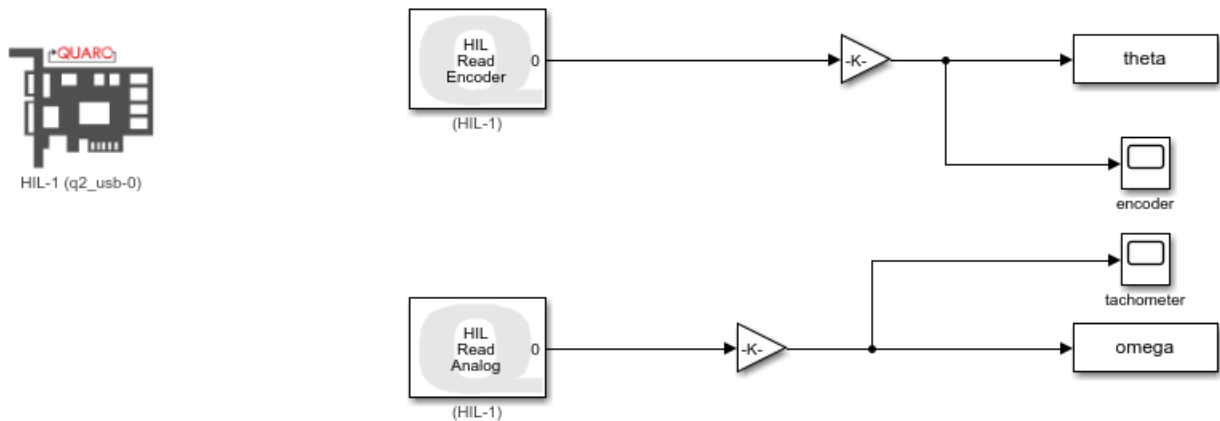

Figure 2.4: Simulink model for Lab 2 for the manual impulse
7. You will now introduce an impulse into the real system by providing a “jolt” by hand. This can be done by tapping the gear. Prepare the Simulink model shown in Figure 2.4. Note that there is no **HIL Write Analog** block required in this case since you are providing the input action. Using Simulink, build the model. Under the **hardware** menu, select **Monitor and Tune**. Quickly give the motor a “jolt” by giving